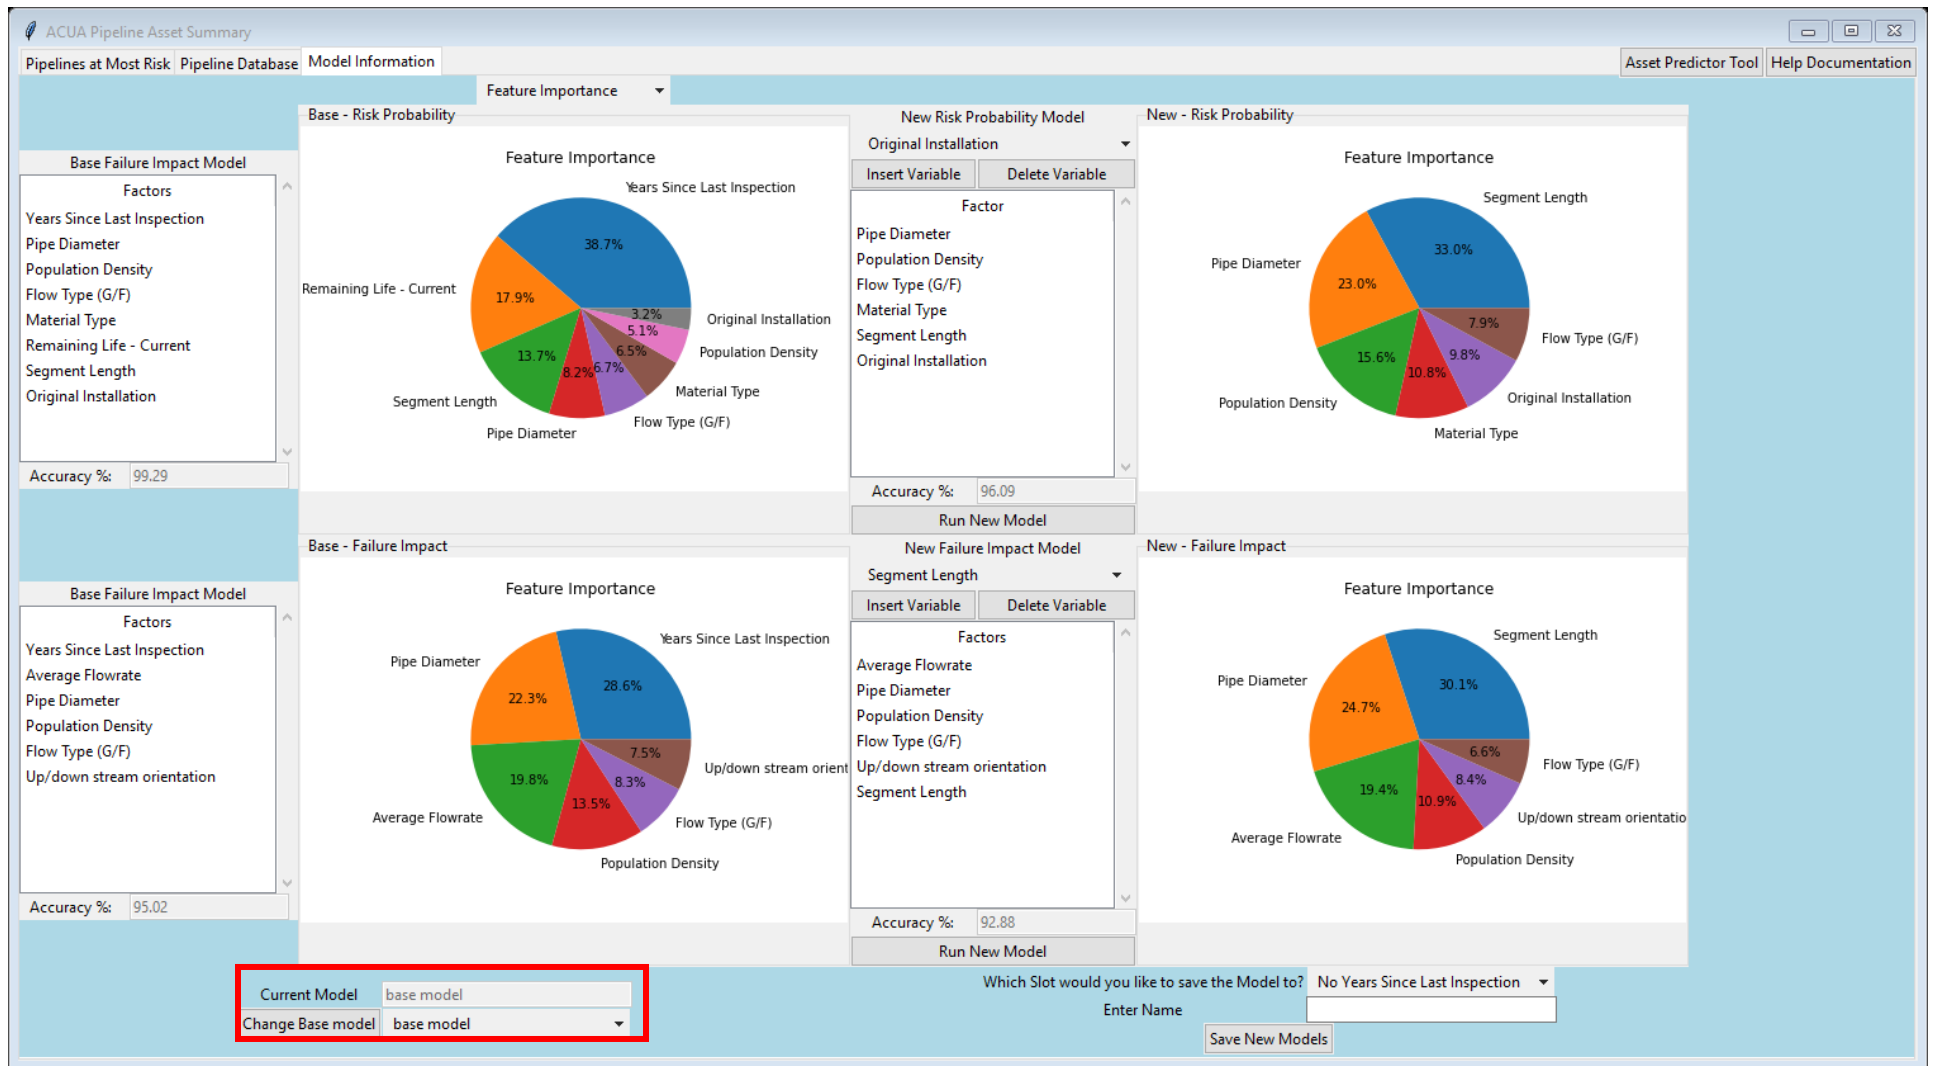

Figure 16: How to change the model, and displaying what model is currently being used
2. The red outline in Figure 16 shows where the user can change the model to any of the saved models.